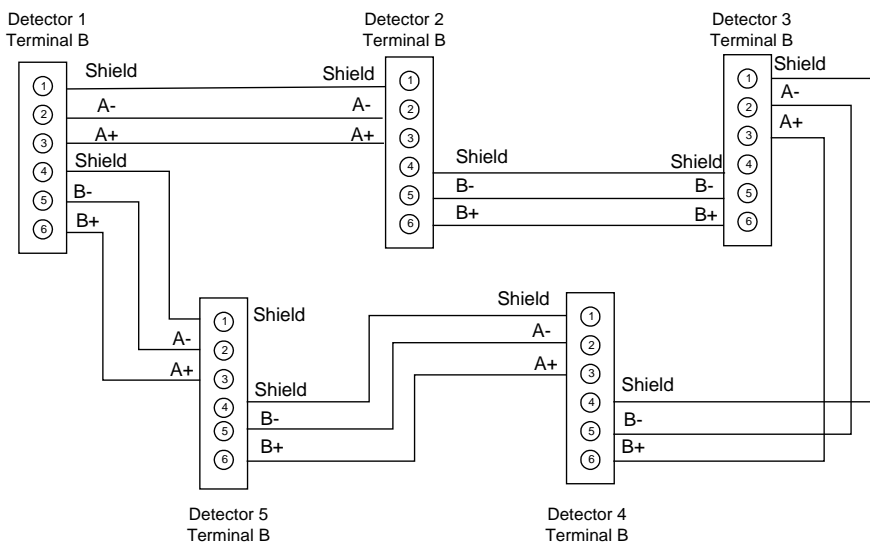

Figure 11 Wire Connection Details for VESDA_{net}
- b) Connect the VESDA_{net} wires as shown in Figure 11. This diagram is only an example for five detectors. This wiring method is similar for two or more detectors.